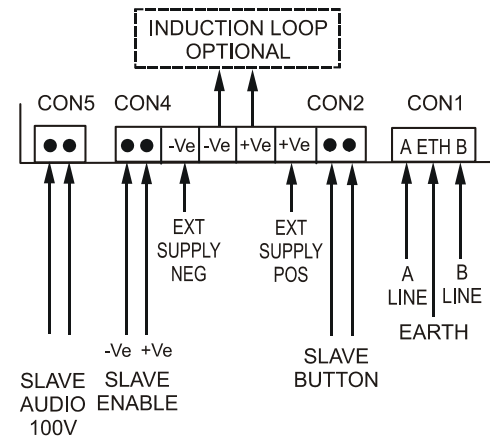

Figure 10 – Connection for Slave Audio 100V Input and Enable
12. Connect the individual wires from the cable to it, in accordance with the connection options given in - Figure 10 - Connection for Slave Audio 100V Input and Enable.